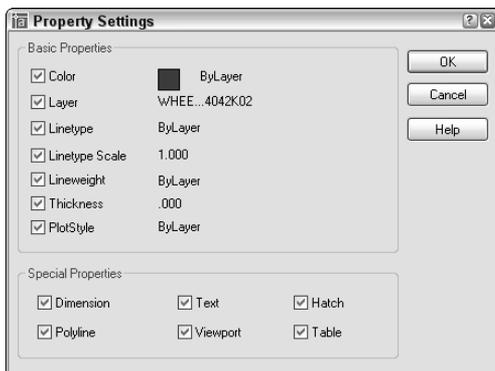

Figure 11-30: The Property Settings dialog box.
4. If you want to match only some of the object's properties, right-click and choose Settings to open the Property Settings dialog box, shown in Figure 11-30. Uncheck all the properties you don't want to match and click OK. The previous prompt returns. Select the object(s) you want to receive the matching properties, that is, the destination objects(s).